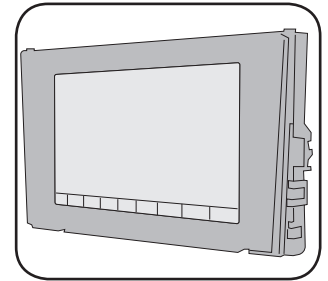
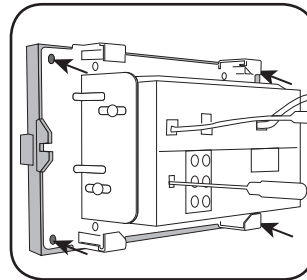

Fig. 2.2
Fig. 2.3
2. Place VW1 bezel onto the mounting bracket (Fig. 2.2), securing it with the four (4) Phillips screws included with the VW1 kit. (Fig. 2.3)